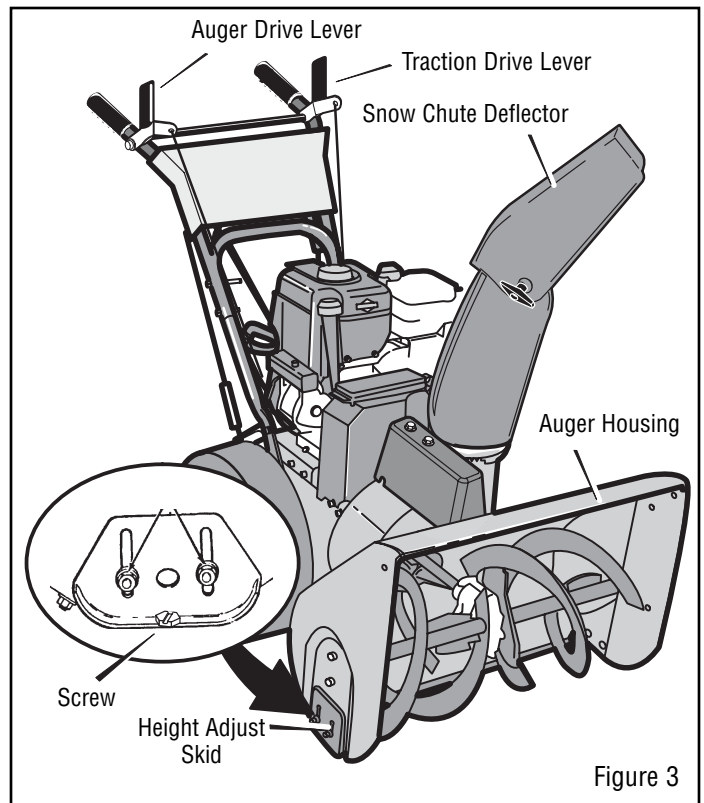

Figure 3
Figure 3 shows the snowthrower completely assembled.
6. For shipping purposes, the **height adjust skids** are attached to the pallet. Remove the **screw** that secures each **height adjust skid** to the pallet (see Figure 3).